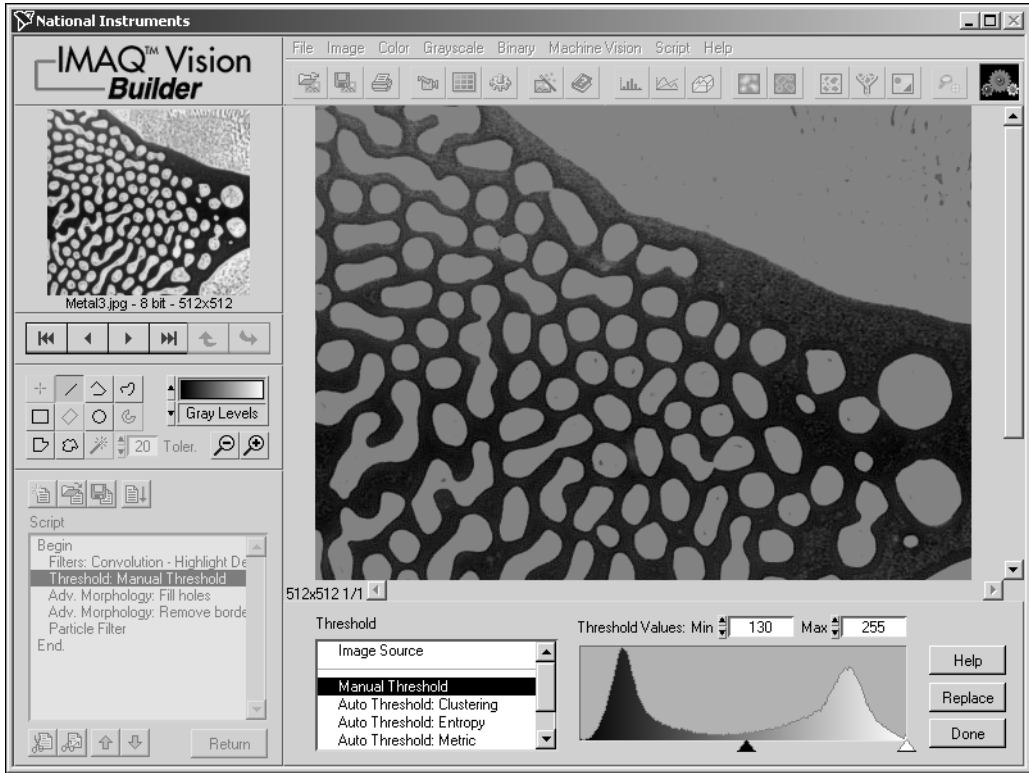

Figure 3-7. Testing the Blob Analysis Script
5. Double-click the Threshold step in the script window to open the threshold parameters. Figure 3-7 shows `Meta13.jpg` at the thresholding step of the script.